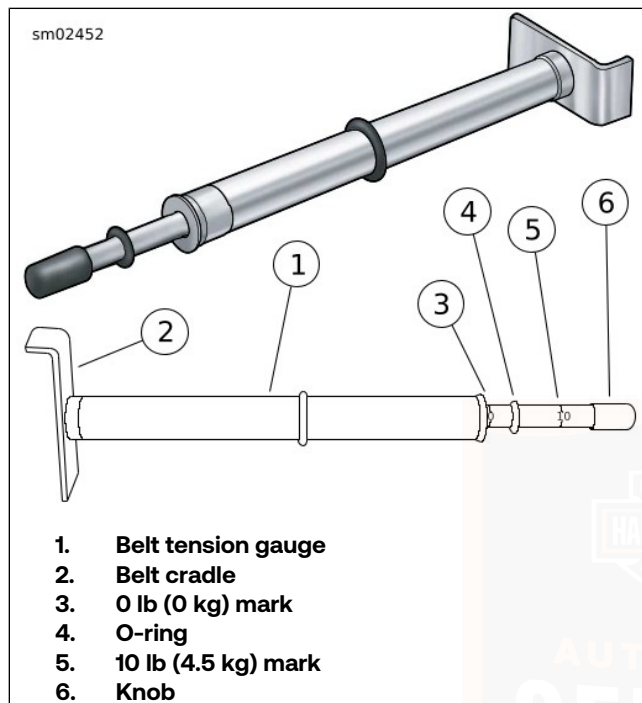

Figure 53. Belt Tension Gauge
2. See Figure 53. Measure belt deflection using: